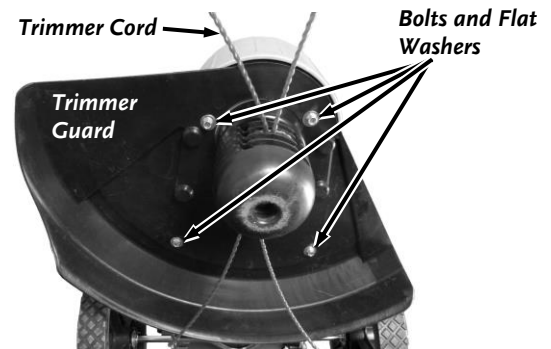

Figure 27
3. Remove the four Trimmer Guard Bolts and Flat Washers with a 3/8" Wrench. Remove the Trimmer Guard (**Figure 27**).
11. Position the Trimmer Guard and secure with the four Bolts and Flat Washers using the 3/8" Wrench (**Figure 27**).